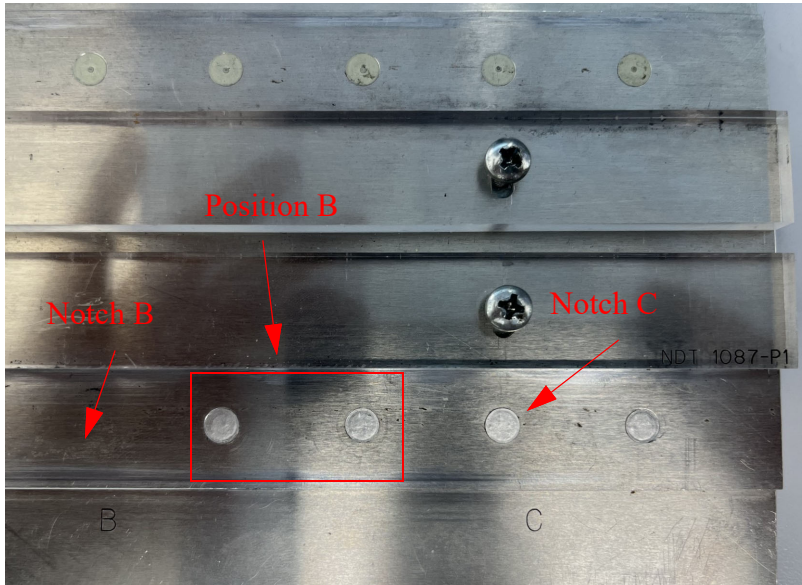
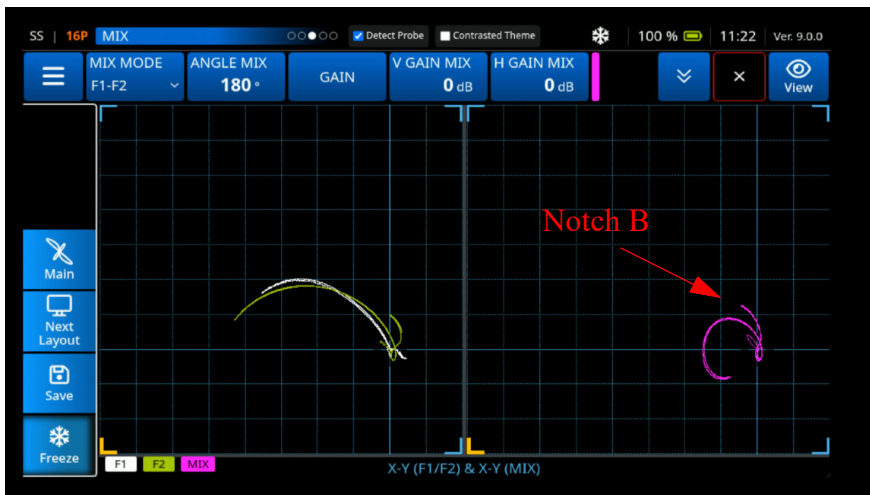

Figure 3-96 Position the Probe
Figure 3-97 Adjusting the F1 & F2 Signals
1. Position the probe between the two lower rivets at **Position B** in the reference standard and press **Null** (See Figure 3-96 on page 114).
2. Scan **Notch B** (See Figure 3-96 on page 114) and press **Freeze** (See Figure 3-97 on page 114).
- Scan over **Notch C** (See Figure 3-96 on page 114).